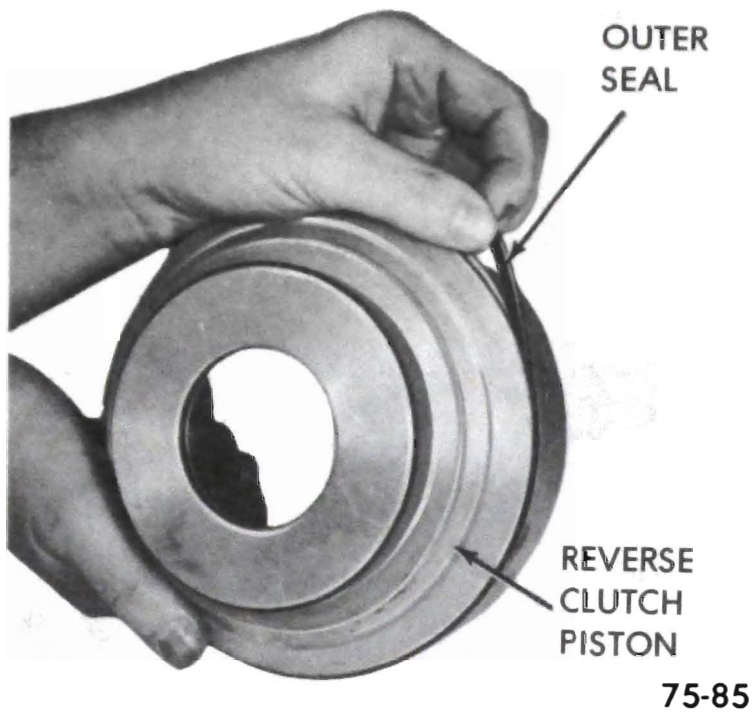

Figure 75-222
1. Install low and reverse clutch piston outer seal. See Figure 75-222.